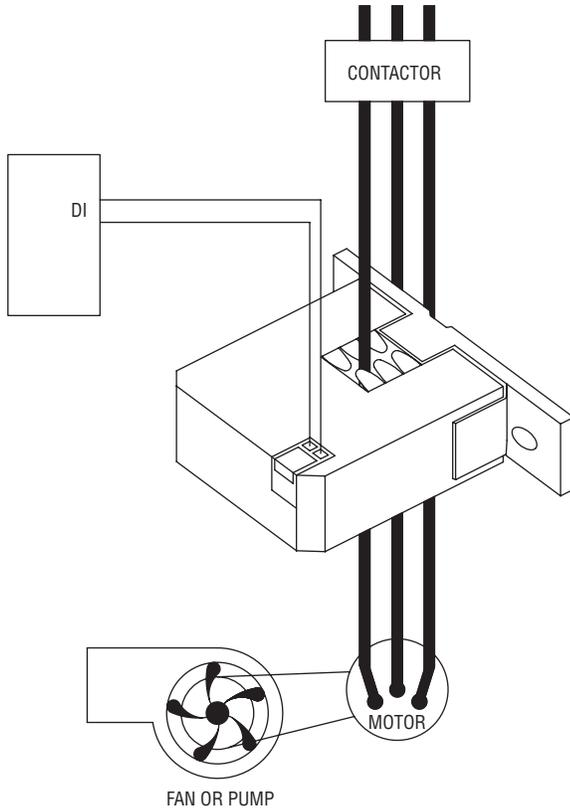

Figure 1
3. Wire the Series SSCS output terminals to the control box Digital Input (DI) terminal (30 V maximum terminal voltage).
4. Close the enclosure and reconnect power to the power conductor cable. (For wiring example, see Figure 1)